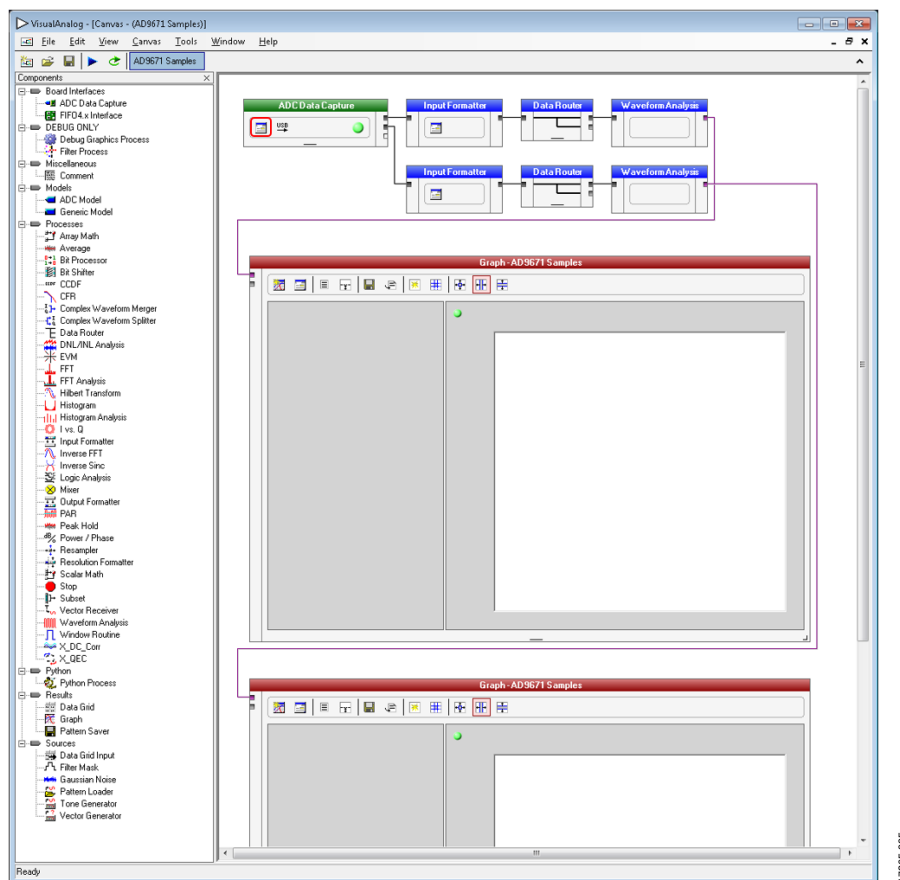
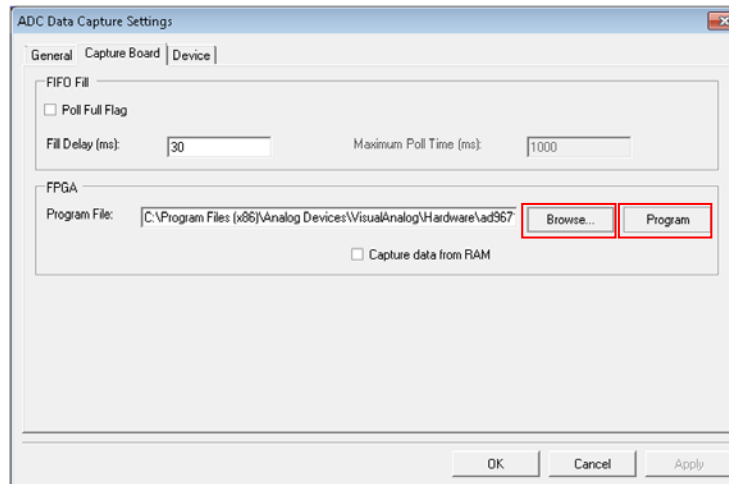

Figure 5. AD9671 Sample Canvas
Figure 6. FPGA Programming Section
4. Click the down arrow on the right side of the task bar to expand the canvas and see the signal processing flow shown in Figure 5.
5. To reprogram the FPGA after VisualAnalog starts, click the **Settings** button in the ADC data capture block on any canvas, as marked with the red box in Figure 5. In the **Capture Board** tab in the **ADC Data Capture Settings** window shown in Figure 6, click **Browse**, select the bin file **ad9671_evalez06132014_0921am.mcs**, and then click **Program**. After the file loads, the CONFIG_DONE LED illuminates on the data capture FPGA board. Click **OK** to close the window.